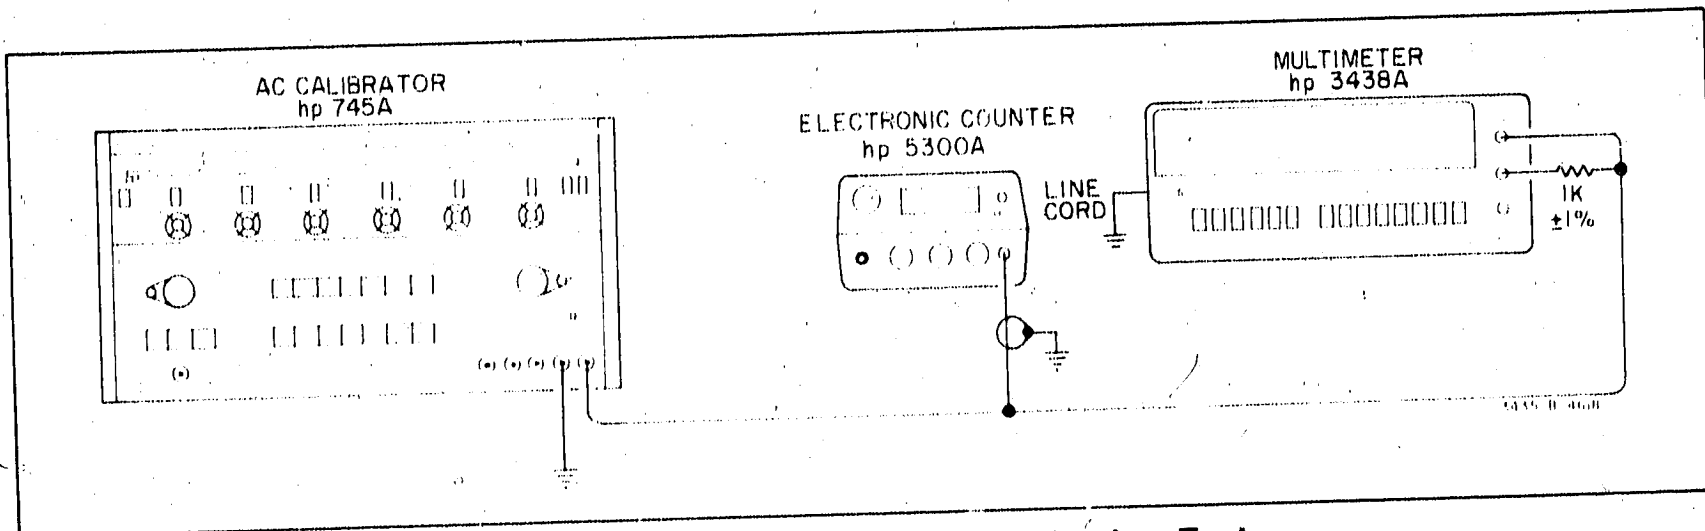

Figure 4-8. AC Common-Mode Rejection Test.
d. Connect the AC Calibrator between the Multimeter V- Ω terminal (with the 1 k resistor still in place) and power line ground as shown in Figure 4-8.